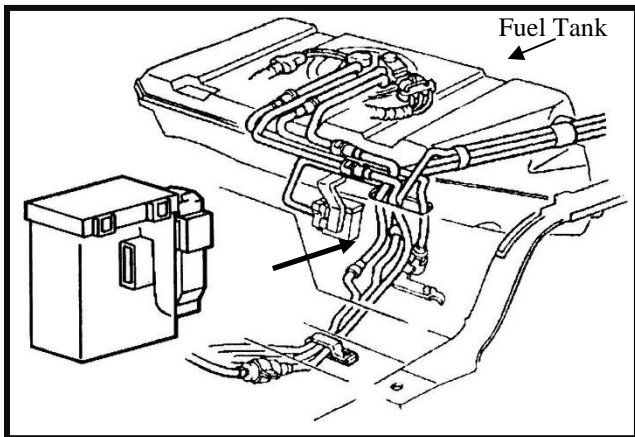

FIGURE 6.6 Canister Vent Solenoid
- D. **CAN VENT (not equipped on all models)** - The Evaporative Emissions (**EVAP**) control system used on all vehicles is the charcoal canister storage method. This method transfers fuel vapor from the fuel tank to an activated carbon, charcoal, storage device, canister, to hold the vapors when the vehicle is not operating. When the engine is operating, the fuel vapor is purged from the carbon element by intake air flow and consumed in the normal combustion process. **See Figure 6.6**